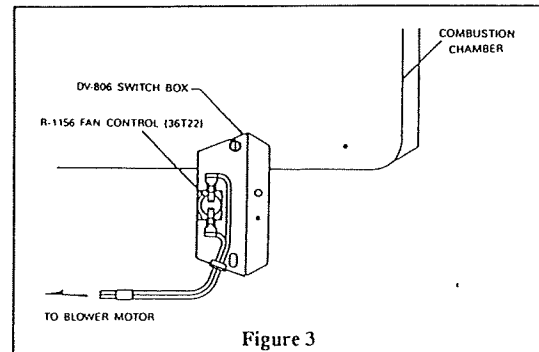

Figure 3
7. With the switch box perpendicular to the combustion chamber, align the round clearance hole on the switch box with the left screw hole on the combustion chamber. (See Figure 3)